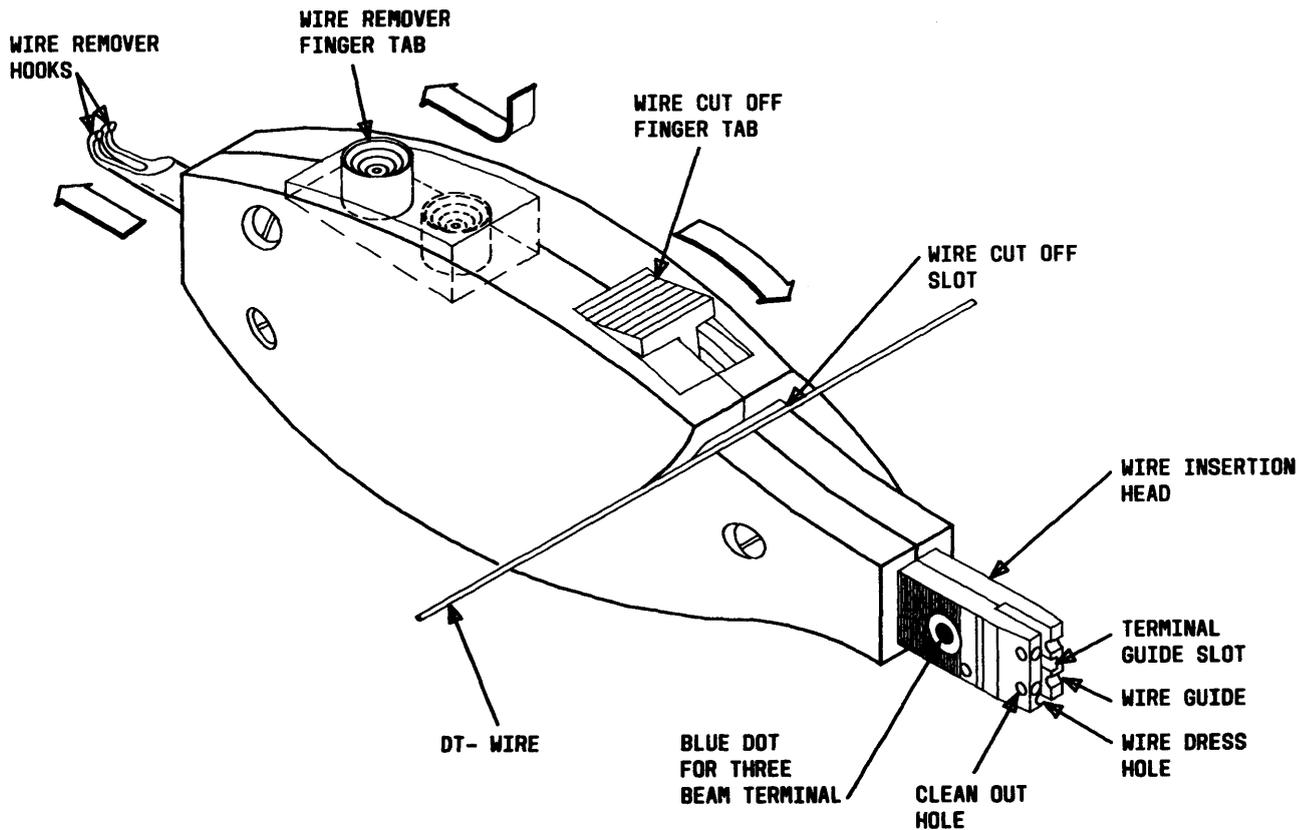

Fig. 18—950A Wire Insertion and Removal Tool
3.08 The 950A wire insertion and removal tool (Fig. 18) is used for inserting the cross-connection into a 3-beam terminal (89TB-type connecting blocks). The procedure for making a connection is the same as Steps 1 through 9 in paragraph 3.06 except, in Step 7, the 950A tool can also be used to remove a defective connection.